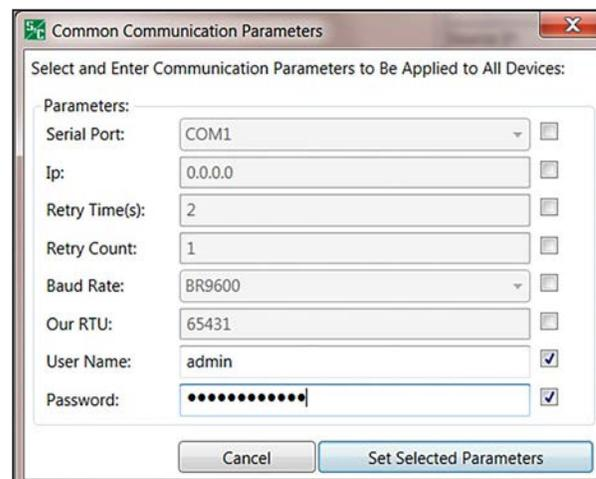

Figure 87. The Common Communication Parameters dialog box.
**Note:** Parameters shared by all devices can be entered on the Common Communication Parameters dialog box to expedite communications setting setup for all entry point devices. See Figure 83 on page 85. Open this by clicking the **Parameters Common to All Devices Set** button. Passwords will not be displayed on the main configuration area but are still saved for that session. If the communication manager is closed, the password must be re-entered. See Figure 87.